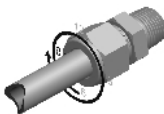

Fig. 3
3. For tube fittings below or equal to 3/16" (4mm) O.D., tighten the nut 3/4 turn to 3 o'clock position with a wrench, while holding the fitting body steady. For tube fittings above 3/16" (4mm) O.D., tighten the nut 1-1/4 turns to 9 o'clock position. (Fig.3)